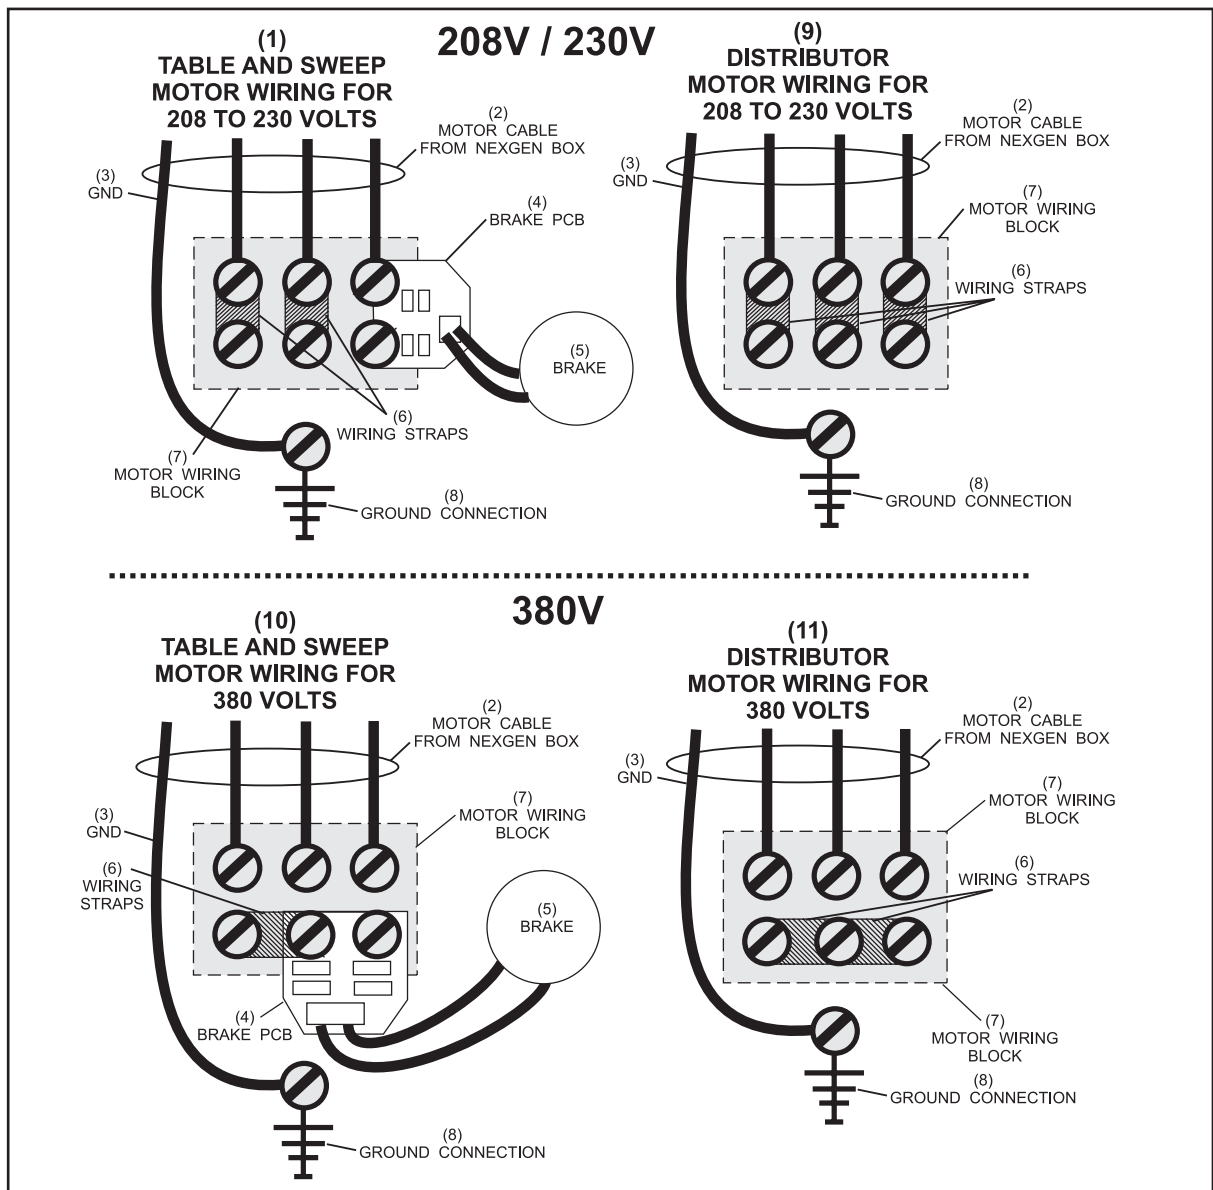

Figure 8-12. Table, Sweep and Distributor Motor Wiring
6. Install the motor onto the pinsetter and wire it for proper voltage. Verify that the wiring straps and Brake PCB (if applicable) are properly attached. Refer to Figures 8-12 and 8-13.